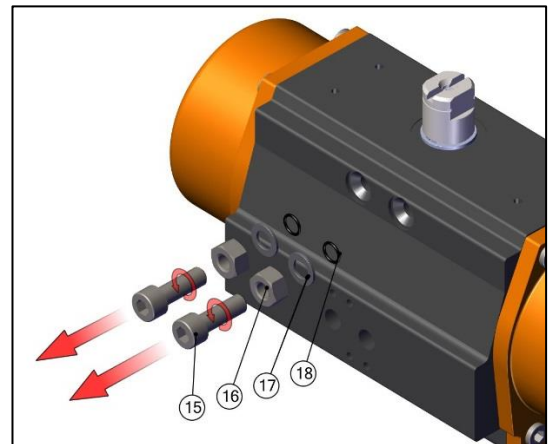

Fig No.11
- Remove Both Stroke Bolts (15), Nuts (16) & Washers (17).
- Remove Stroke Bolt O-Ring (18) & discard if replacing all soft parts. (refer fig no.11)